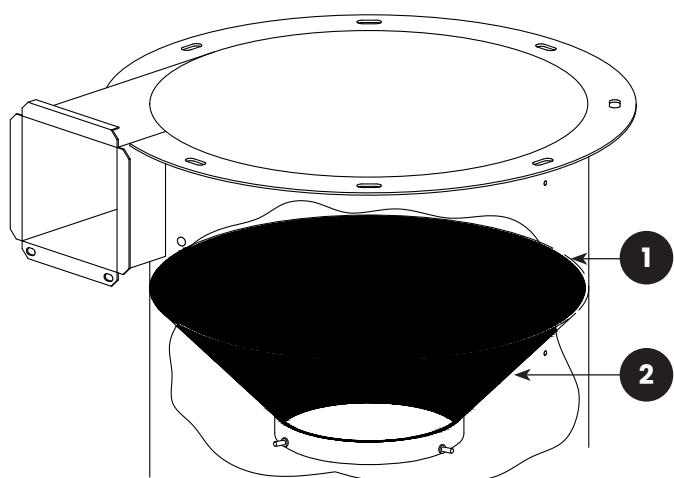

FIGURE 10: (1) Cone Liner; (2) Cone-Ring Liner
7.4.13 | The cone liner and cone-ring liner, shown in **Figure 10**, are glued onto the inner cone. Pull off the liners to remove them.